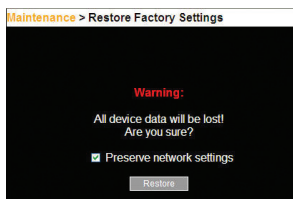

Figure 23 Restore factory settings
1. From the menu, select “Restore Factory Settings”. The Restore Factory Settings page appears (see Figure 23).